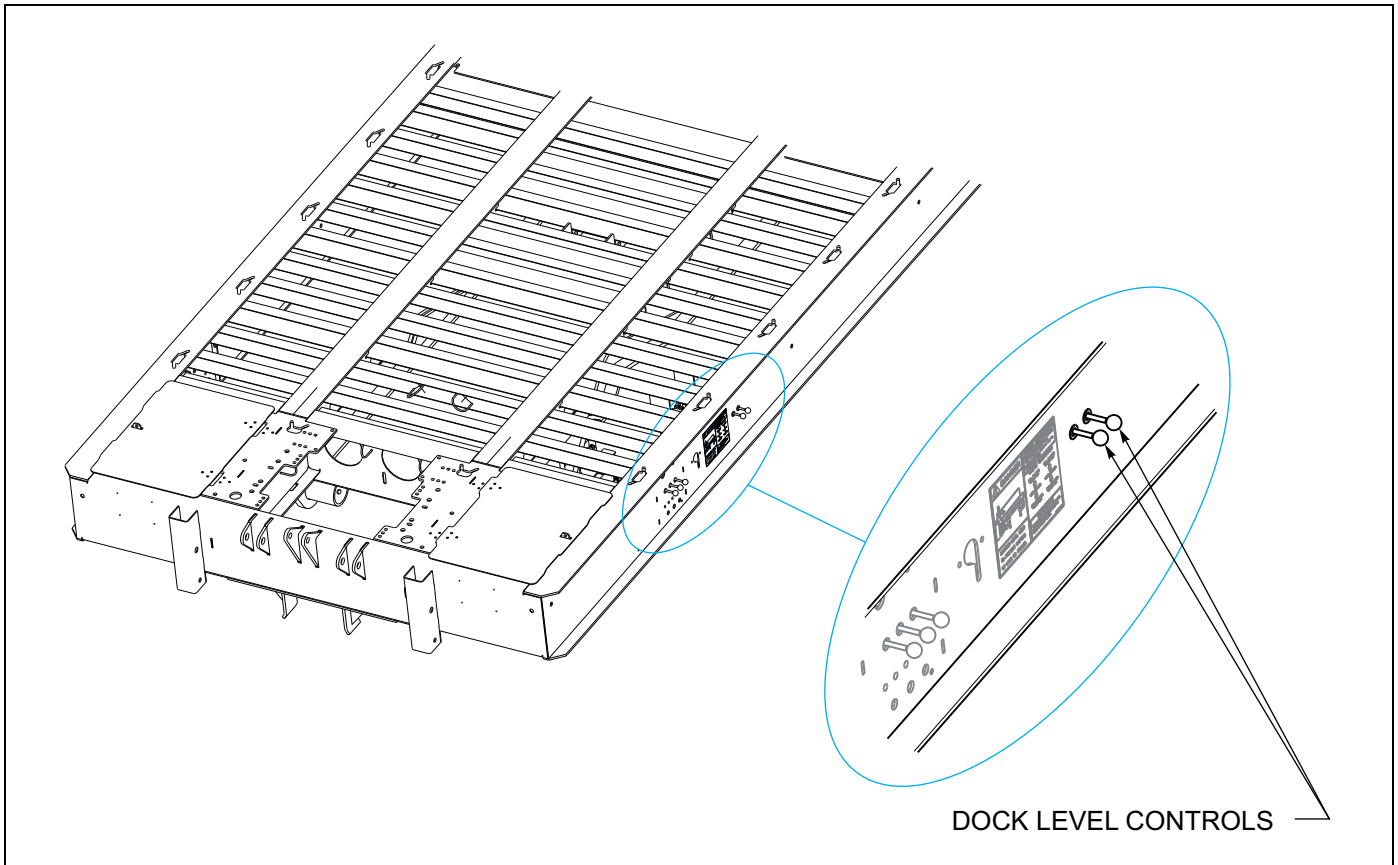

Figure 3-6: Dock Leveler Controls
2. The **DOCK LEVELER CONTROLS** are located under the deck, on the driver's side, between the axles (See Figure 3-6.) The front-most control adjusts the cylinder on the driver's or street side of the trailer. The rear-most control adjusts the cylinder on the curb-side of the trailer. Both controls have three positions: